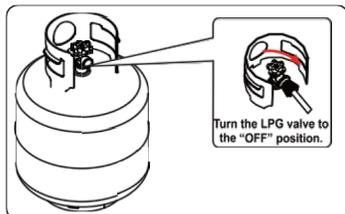

Fig 16
2. Close valve on LPG bottle. (See fig 16)